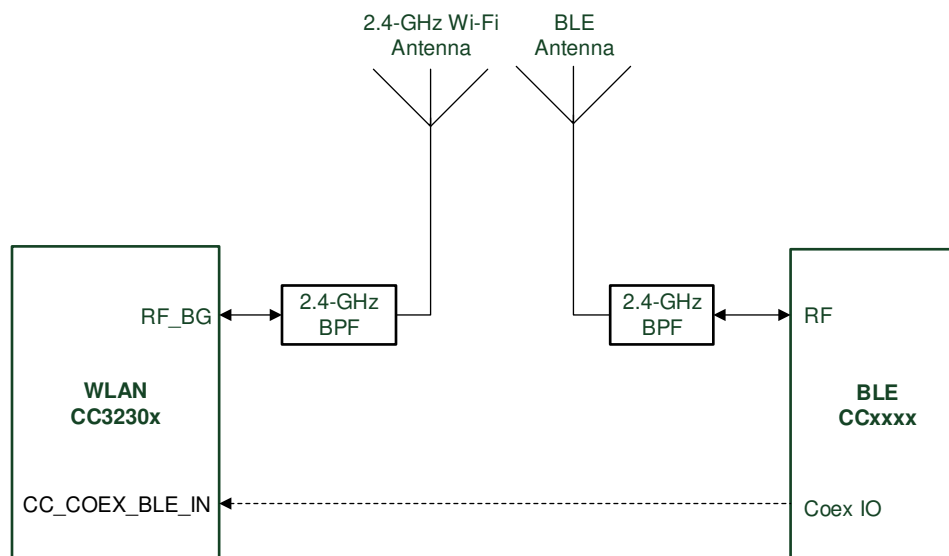

图 9-2. Dual-Antenna Coexistence Mode Block Diagram
- In this mode, (see 图 9-2) the two entities have separate antennas, no RF switch is required, and only a single GPIO (on input from the WLAN perspective).
图 9-2 shows the dual antenna implementation of a complete Bluetooth low energy and WLAN coexistence network. Note in this implementation no Coex switch is required and only a single GPIO from the BLE device to the CC3230x device is required.